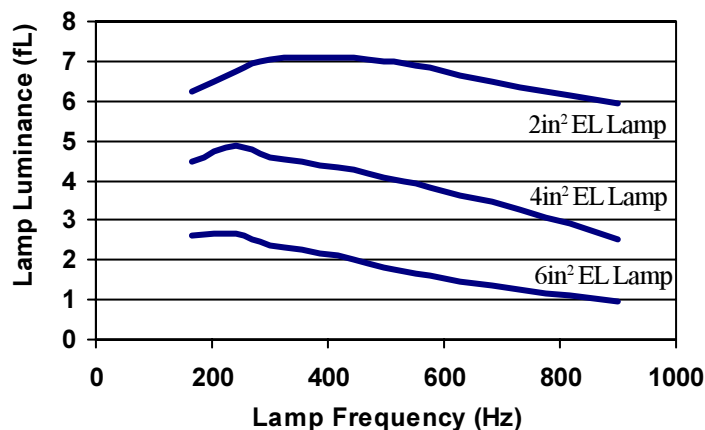

Figure 2: Typical Lamp Luminance vs. Lamp Frequency
The selection of the CLF value can also affect the brightness of the EL lamp because of its control of the lamp frequency (LF). Although input voltage and lamp size can change EL lamp frequency as well, LF mainly depends on the CLF value selected or the frequency of the input clock signal to CLF. The luminance of various sizes of Durel 3 Blue-green EL lamp driven by a D356A at $V+ = 3.0V$ using the same inductor value is shown in Figure 2 with respect to lamp frequency.